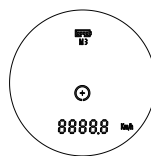

Figure 10
**3) M3 Mode:** Short press the power button after targeting the moving object, the speed data will display on the screen. (as figure 10)